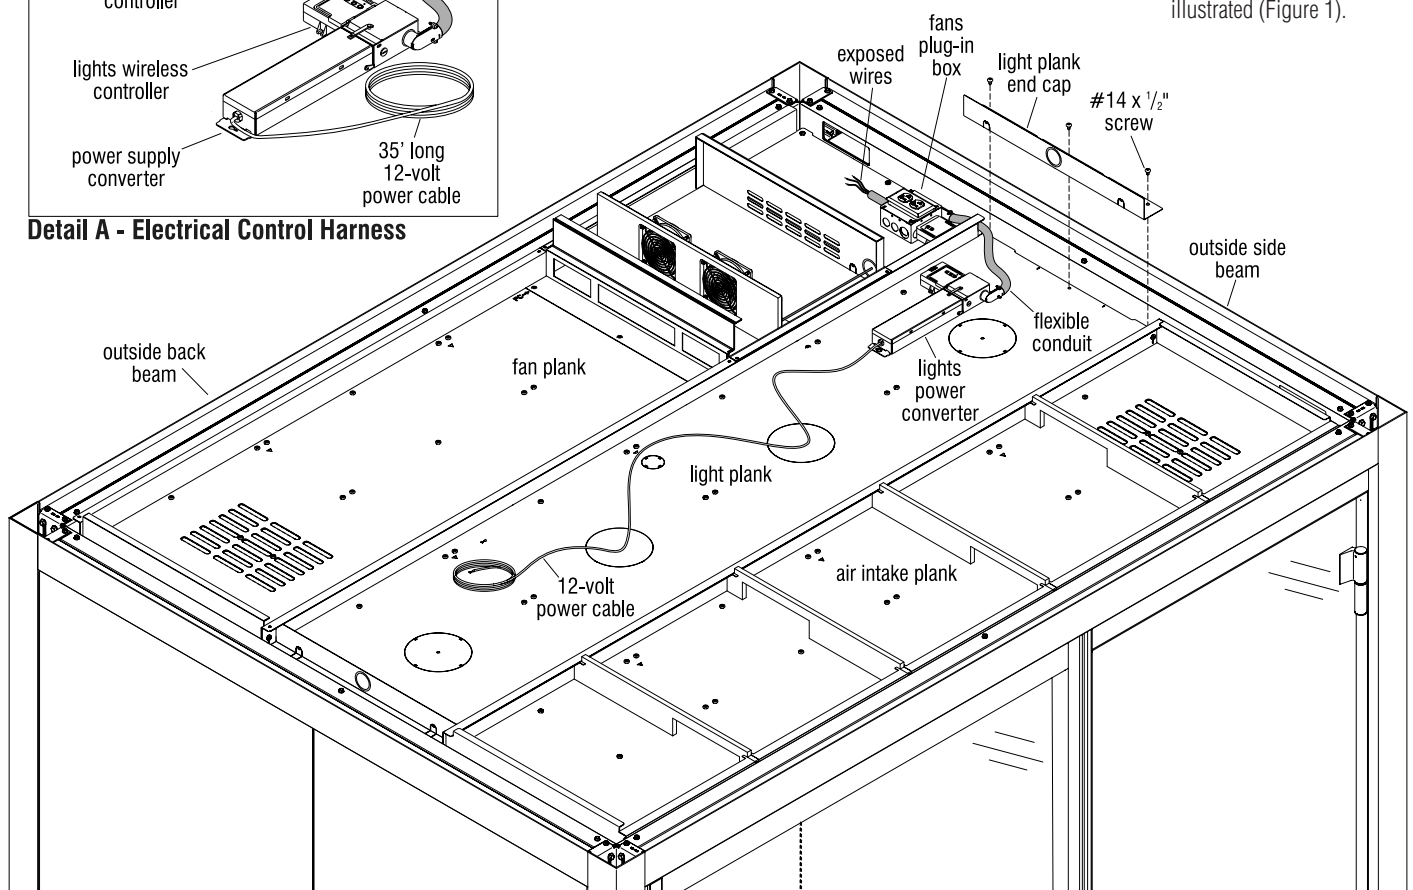

Figure 1
2. Locate the electrical control harness assembly and remove the 8-wire connector end to expose the wires whip (Detail A). Position the electrical control harness as illustrated with the lights power converter section onto the light plank, then bend the conduit with the fan plug-in box over to the fan plank side and in position as illustrated (Figure 1).